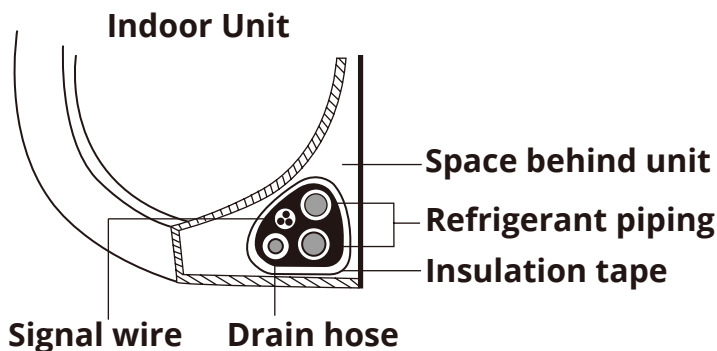

Fig. 5.15
1. Bundle the refrigerant pipes, drain hose, and signal cable in the orientation as shown in **Fig. 5.15**.